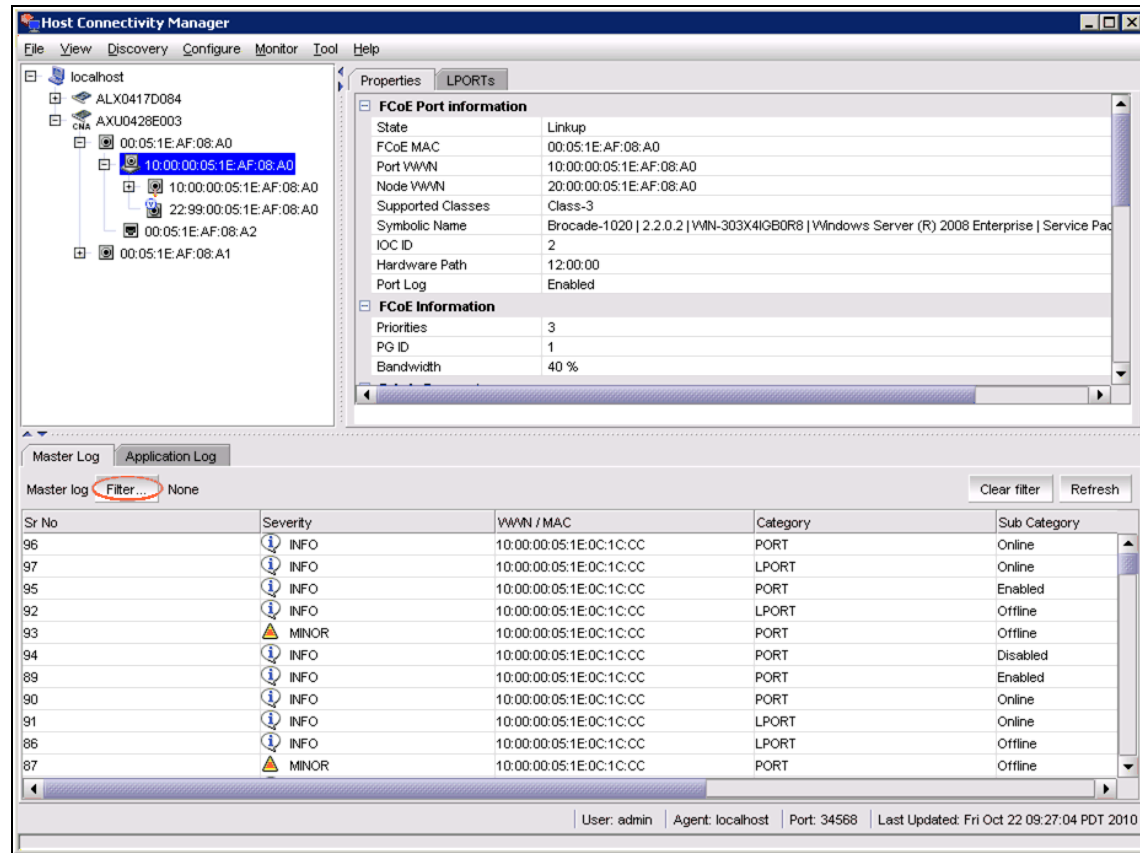

Figure 10-53 Filter Log Entries
1. Click the **Filter** button in the Master Log section of the bottom pane of the HCM main window (Figure 10-53).